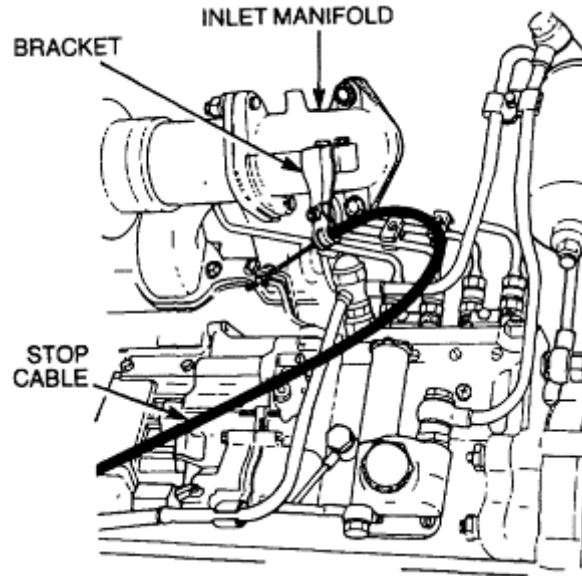

Figure 35 Stop Cable Mounting
- f. Remove the stop cable mounting bracket from the inlet manifold and disconnect the cable from the pump control lever (Figure 35).
- d. Remove the cable bracket from the inlet manifold (Figure 35).
- f. Install the cable bracket on the inlet manifold (Figure 35) and tighten the two bolts securely.